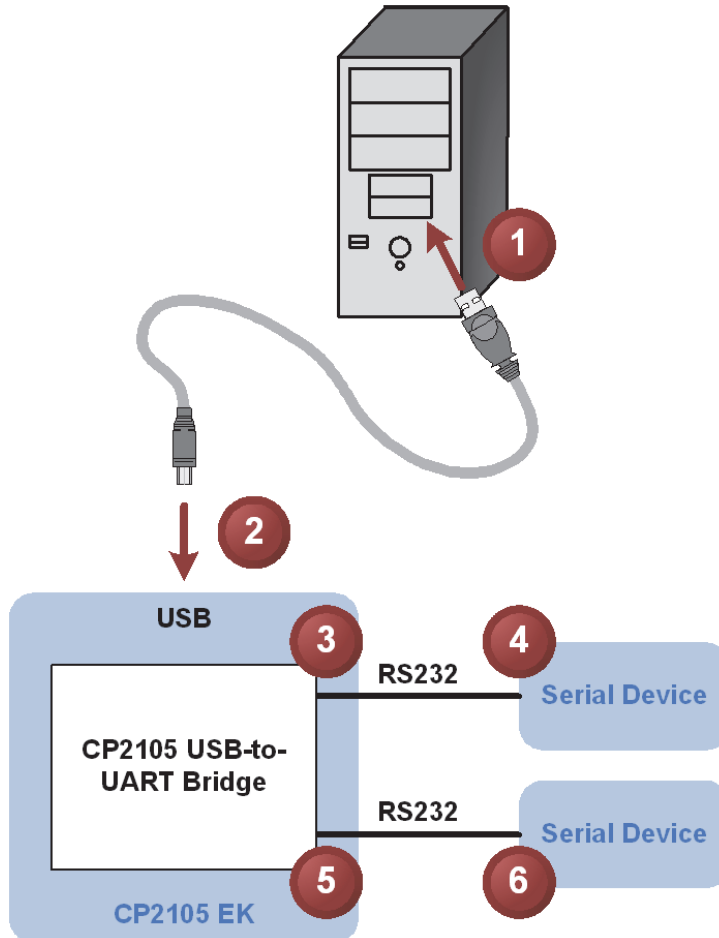
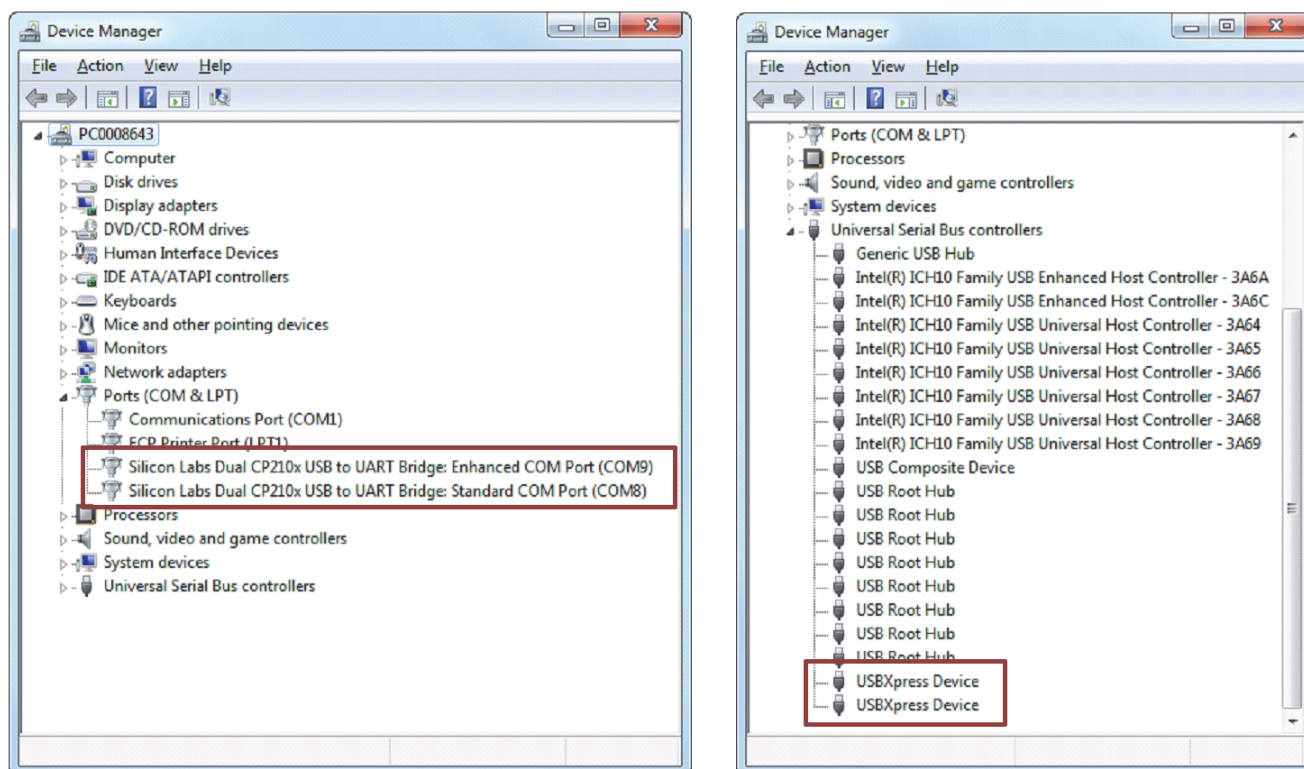

Figure 1. Hardware Setup
Figure 2. CP2105 in Device Manager
The evaluation board is connected to a PC as shown in Figure 1.
If the Virtual COM Port drivers are used, the CP2105 will appear as two COM ports in the Device Manager, as shown in Figure 2. The CP2105 will always use the lowest available COM ports for operation. For instance, if COM ports 1 and 2 are in use by other peripherals and applications, the CP2105 will use COM 3 and COM 4.
If the USBXpress drivers are used, the CP2105 will appear as two USB USBXpress devices as shown in Figure 2. Examples for how to communicate with the device using the USBXpress interface are included in AN169 on the www.silabs.com/interface-appnotes page.
- Updated "Figure 2. CP2105 in Device Manager" on page 3.
- Updated Figure 1 and Figure 2.